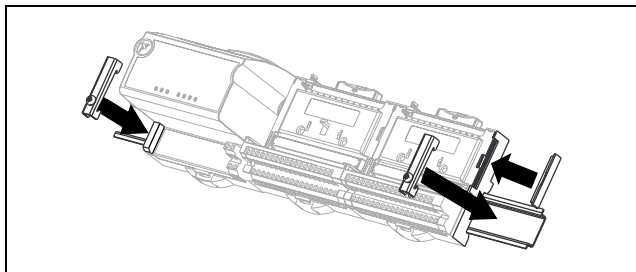

Figure 3. Adding Rail Locks and Protective Cover
- Place the protective cover onto the local bus connector of the last terminal base on the bank, as shown in Figure 3. Add rail locks by sliding them on and tightening the screws as shown in Figure 3.